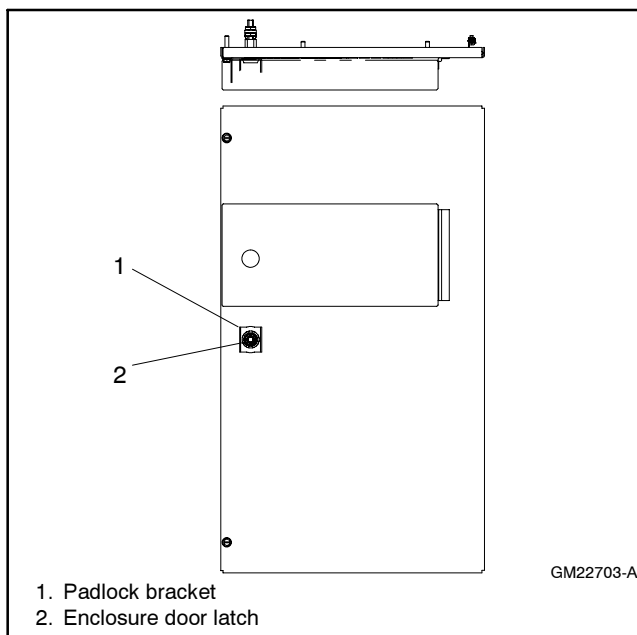

Figure 6 Attaching Padlock Bracket on Enclosure Door (welded enclosures only)
3.1 Remove the existing enclosure door latch on the enclosure door (welded enclosure). See Figure 6.